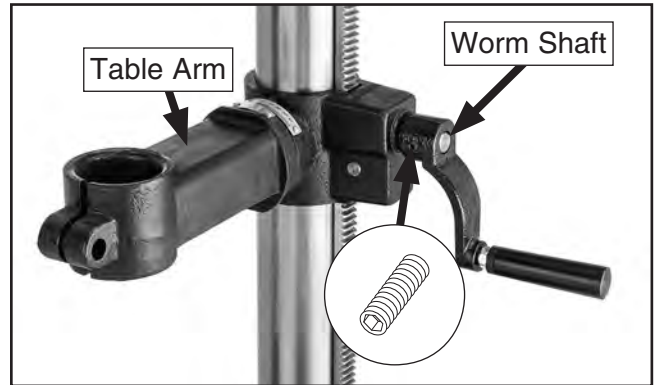

Figure 13. Table height crank handle attached to table arm.
- Attach table height crank handle to table arm (see **Figure 13**) and secure by tightening pre-installed set screw against worm shaft.